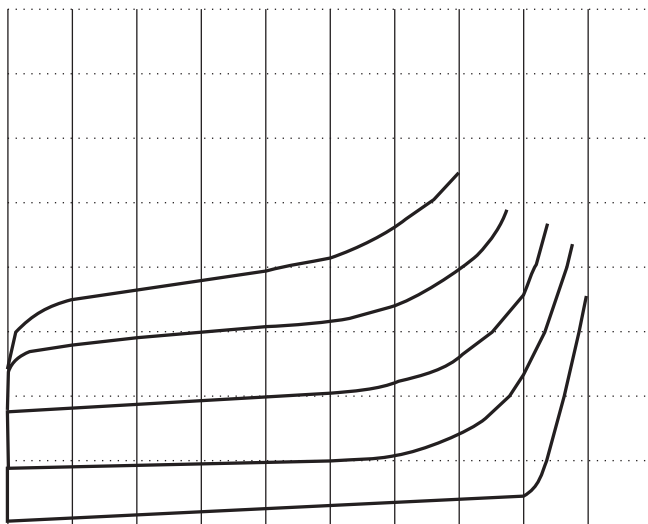

Figure 2
The maximum power is selected with buttons P_{max} . ②. The characteristic diagram is a hyperbola which trims the maximum values of current and voltage. If the limit values of the DUT are smaller than the testable limits of HM6042, the run of the hyperbola is visible (**Figure 2**).